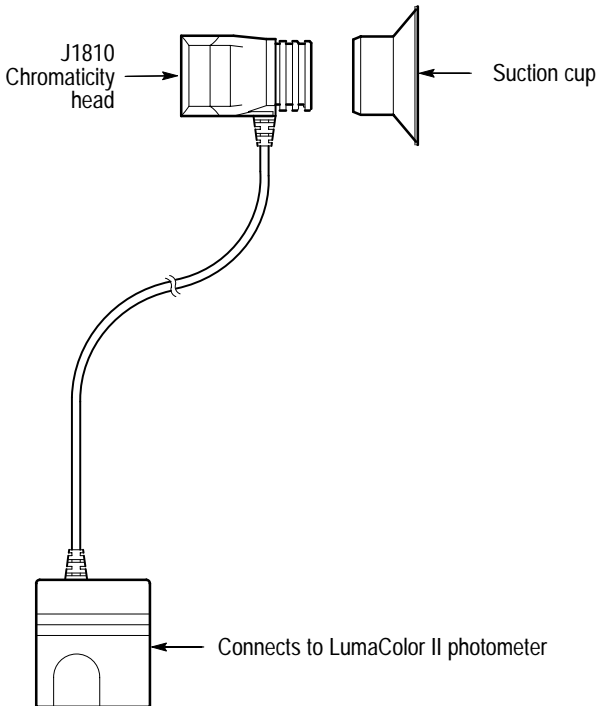

Figure 1–13: The J1810 Chromaticity head
4. Point the J1806 at the diffuser. Refer to Figure 1–12. When positioning the J1806, observe the following guidelines:
The J1810 features are shown in Figure 1–13.
Refer to Figure 1–13.